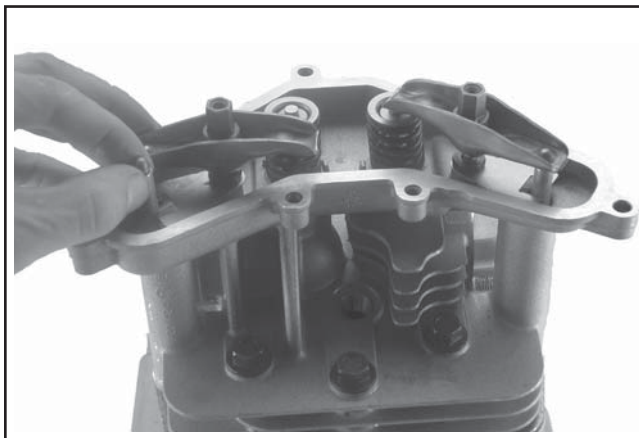

Figure 10-43. Installing Push Rods and Rocker Arm Assemblies.
- Note the mark or tag identifying the push rod as either intake or exhaust. Apply grease to the ends of the push rods. Insert the push rods into the push rod bores and seat the lower end into the dimpled recess of the cam levers. It may be necessary to lift or shift the lower end of the push rod slightly, and feel that the rod seats into the recess. Once seated, hold it in place as you position the rocker arm. The push rod must stay in the recess while the rocker arms are positioned and adjusted. See Figure 10-43.